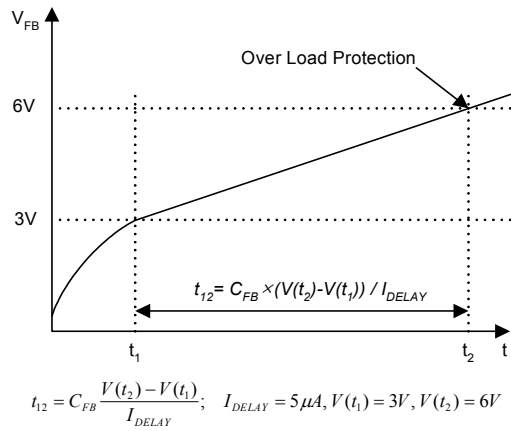

Figure 6. Over Load Protection (OLP)
4.1 Over Load Protection (OLP) : Overload is defined as the load current exceeding a pre-set level due to an unexpected event. In this situation, the protection circuit should be activated in order to protect the SMPS. However, even when the SMPS is operating normally, the over load protection (OLP) circuit can be activated during the load transition. In order to avoid this undesired operation, the OLP circuit is designed to be activated after a specified time to determine whether it is a transient situation or an overload situation. In conjunction with the Ipk current limit pin (if used) the current mode feedback path would limit the current in the Sense FET when the maximum PWM duty cycle is attained. If the output consumes more than this maximum power, the output voltage (Vo) decreases below its rating voltage. This reduces the current through the opto-coupler LED, which also reduces the opto-coupler transistor current, thus increasing the feedback voltage (VFB). If VFB exceeds 3V, the feedback input diode is blocked and the 5uA current source (IDE-LAY) starts to charge Cfb slowly up to Vcc. In this condition, VFB increases until it reaches 6V, when the switching operation is terminated as shown in Figure 6. The shutdown delay time is the time required to charge Cfb from 3V to 6V with 5uA current source.